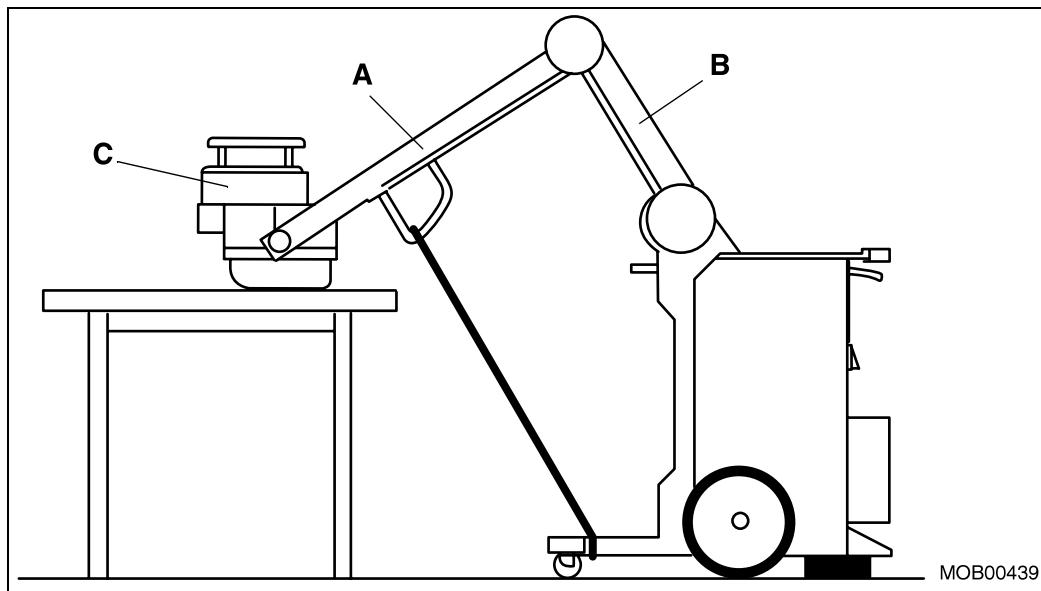

Fig. 57: Replacing the tank
- Place the system so that the single tank rests on a table. Secure the support arm with a rope (Fig. 57 / p. 66).
- Install and cable the collimator. Only attach the collimator cover (C/Fig. 57 / p. 66).
- Attach the covers (A/ B/ Fig. 57 / p. 66).